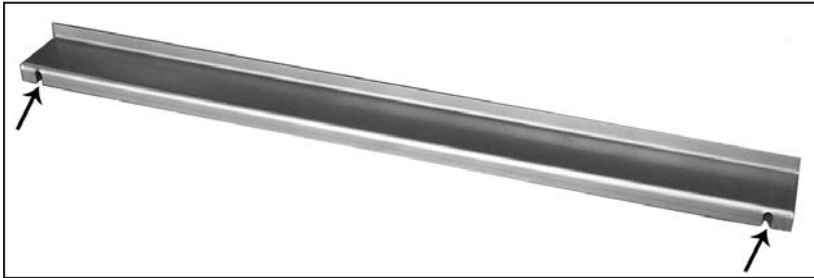

Figure 61: Brick panel bracket, slots shown.
1. Remove the two (2) screws from the rear of the baffle, use a $\frac{1}{4}$ " socket or a flat head screwdriver. Place the provided brick bracket (Figure 61) at the rear of the baffle with the slots over the screw holes (see Figure 62). Insert two (2) of the provided screws into the two (2) holes along the bottom of the baffle.